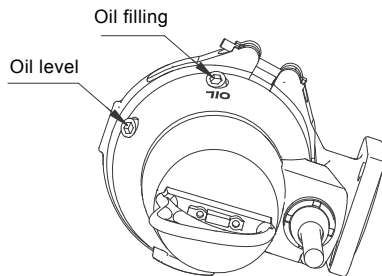

Fig. 12 Oil filling holes
d) Adjustment of impeller clearance incorrect.	Readjust the impeller. See fig. 12 in section <a href="#">10.2 Oil change</a> .